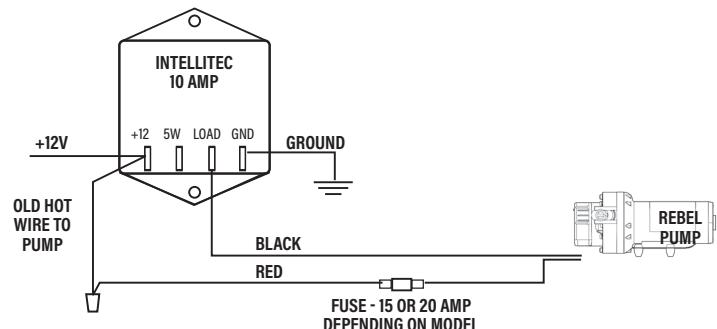

Figure 3
- b. Procure a 40 Amp rated relay (through either a local automotive store or directly through the Remco catalog, product number 20-267-6040-REM) to augment your existing controller. Please refer to Figures 3, & 4, page 4 and Figure 8, page 5.